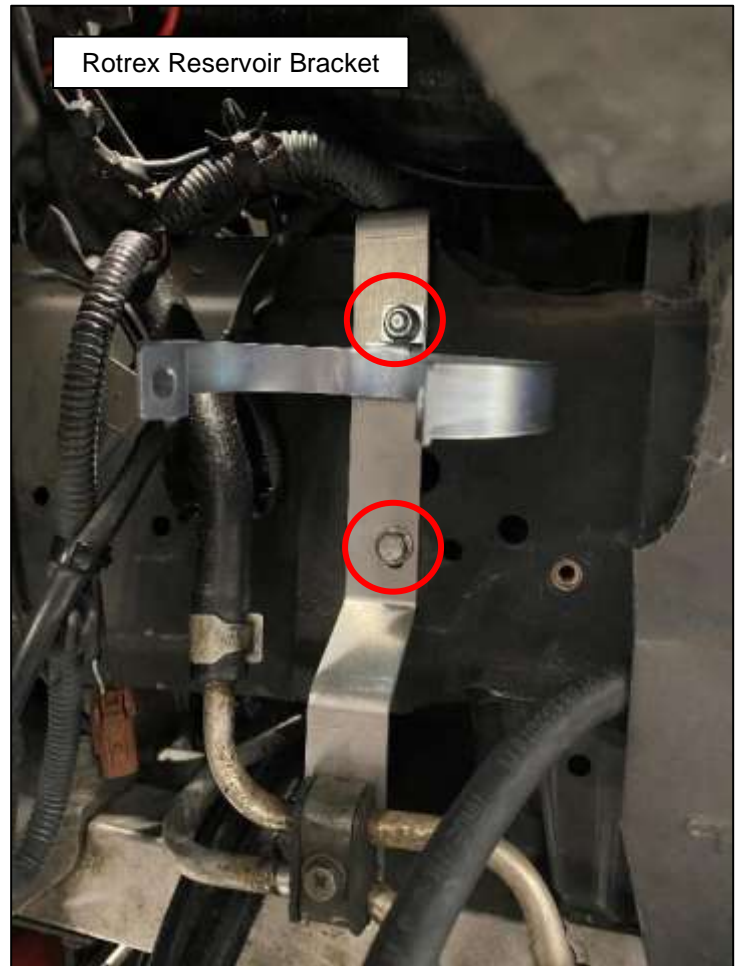

Figure 34
11. Position the Rotrex Oil Reservoir Bracket (#61) onto the Split Rubber Trim Piece and secure it to the frame rail in the same spot as the bracket was removed from in *Step 8* with the OEM bolt. Then secure the OEM power steering cooler lines to the Z1 Oil Reservoir Bracket. The bottom part of the bracket is bent away from the frame rail to allow you to run your engine oil cooler lines in the gap. See *Figure 34* as reference for how the engine oil cooler lines were ran under the OEM bracket.